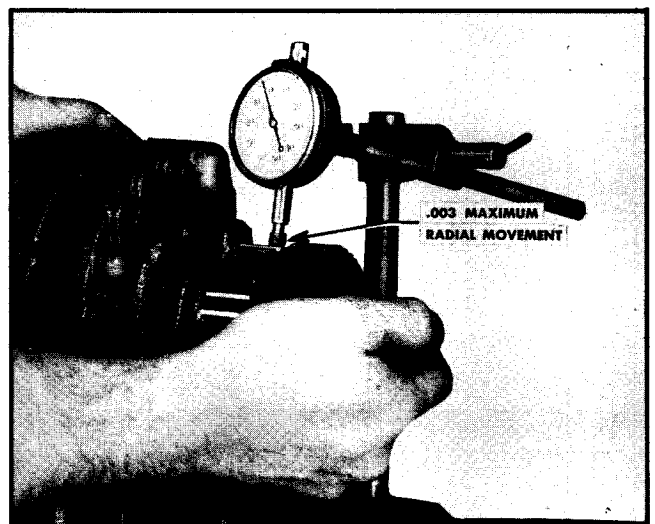

Fig. 10-1. Check radial bearing clearance
2. Check the radial clearance in the bearings. Clearance should not exceed .003. Fig. 10-1.
Set up an indicator gauge on the outer diameter of the rotor timing gears. See Fig. 10-1. Measure the total radial movement as the gear is moved from one side of the bearing to the other. If this total movement is more than .003, the unit should be completely disassembled for a direct inspection of the bearings.